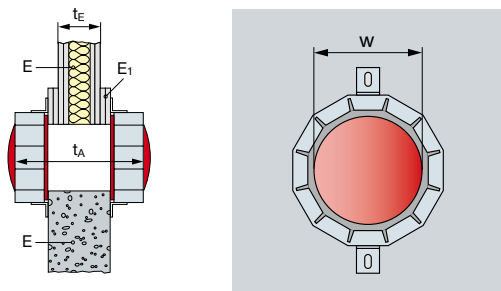

Figure 10: Blank wall seal, no service
Flexible wall, figure 10, top section (E)
Rigid wall, figure 10, bottom section (E)